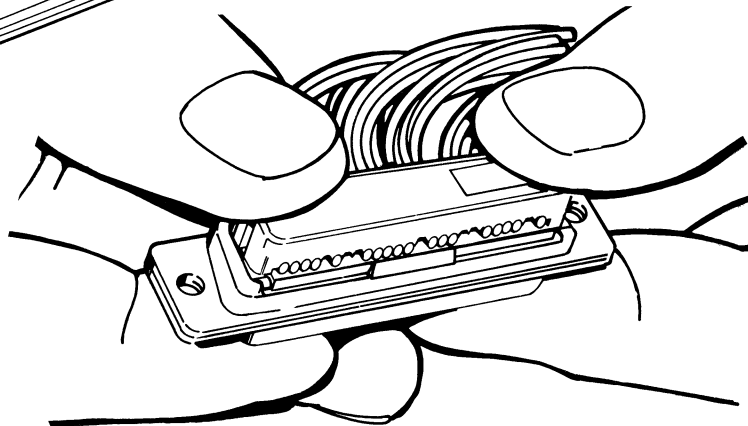

FIG. 4
5. For protective cover—remove the paper liner, align the metal cover retainers with the body slots and push cover down firmly until retainer tabs engage. (Figure 4.)